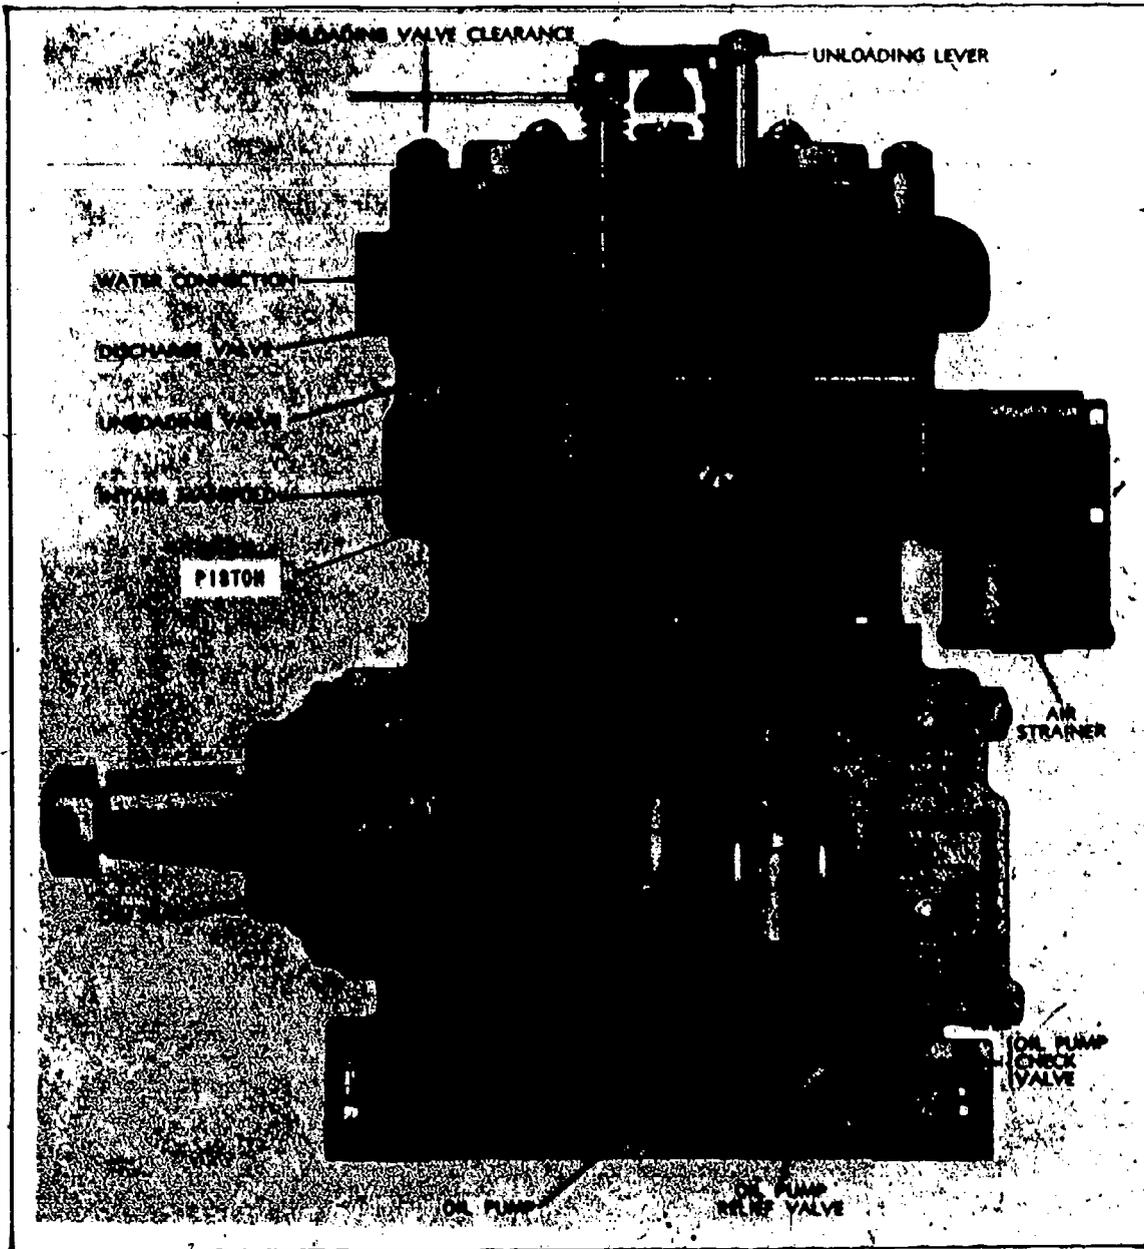

Fig 4-8. Two-cylinder, self-lubricated, reciprocating air compressor.
b. **Operating principle.** Construction of the reciprocating compressors (fig 4-8) used on Marine Corps engineer equipment is similar to the internal-combustion engine. They are belt- or gear-driven by the engine. As the crankshaft is turned, the piston moves up and down. On the down stroke, atmospheric pressure forces the unloading valve off its seat and fills the cylinder. When the piston starts up and the pressure has become equal on both sides of the valve, a spring will close the valve, trapping the air in the cylinder. Note that this unit does not use a camshaft to open the valve. The piston continues upward compressing the air, and when the air pressure is sufficient to overcome spring tension of the discharge valve, it pops open and the air flows to the air receiver. When the air pressure in the receiver reaches the set psi, the air governor functions and directs the air pressure to operate the unloading lever. The unloading lever holds the unloading valve open and the piston cannot compress the air enough to overcome the discharge valve spring tension.